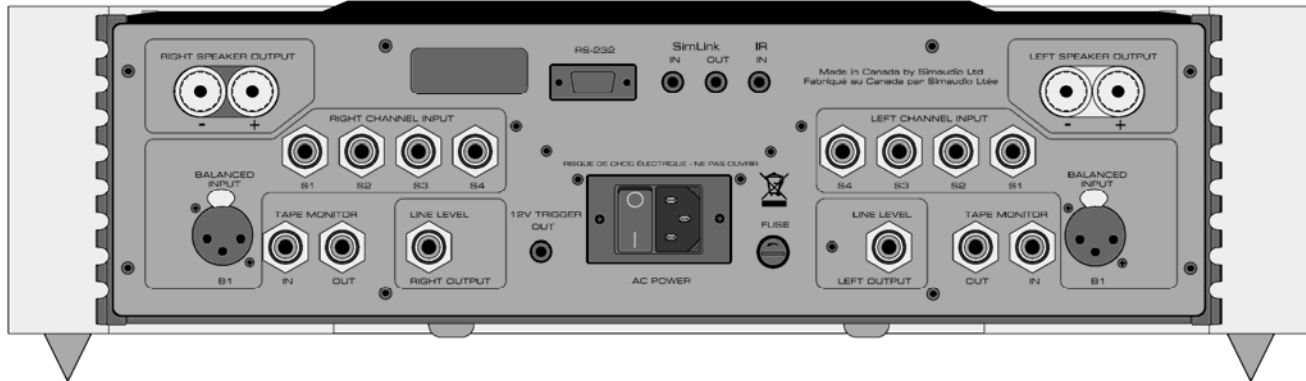

Figure 2: Rear panel of MOON 700i Integrated Amplifier
The rear panel of the **MOON 700i** dual-mono integrated amplifier will look similar to Figure 2 (above). There are two rows of connectors; the top row contains one pair of heavy duty gold-plated speaker binding posts for each channel to connect to your loudspeakers. This integrated amplifier is equipped with full-function bi-directional RS-232 port control and status for custom integration or automation. This is located in the middle section and uses a DB9 connector. Immediately to the right of the RS-232 port are two (2) "SimLink" connectors labeled "in" and "out" on 1/8" mini jacks. Please refer to the next section entitled SimLink for more details. As well, there's a 1/8" mini-jack input for use with aftermarket infrared remote control receivers.